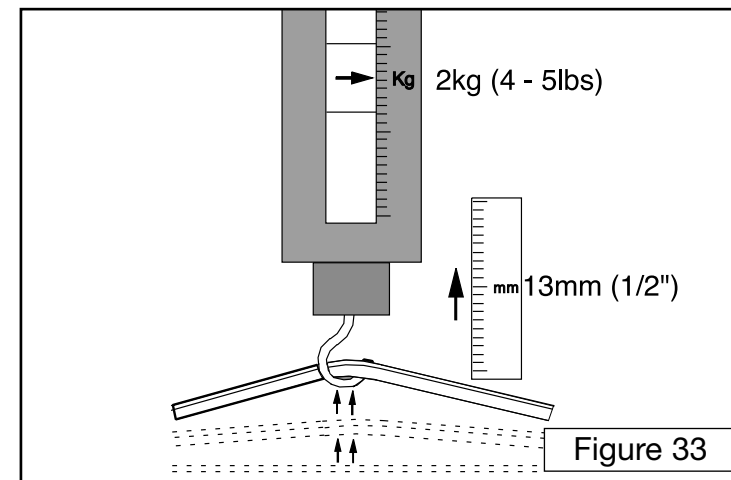

Figure 33
1. Select a midway position on the belt, using a spring balance; apply a 2Kg (4-5lbs) pull (Figure 33).